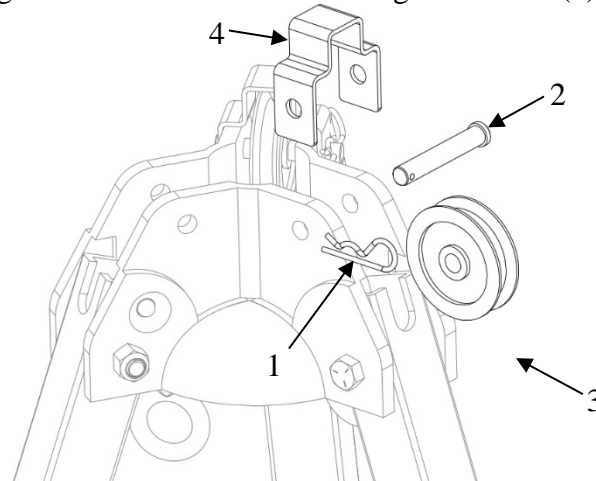

Figure 8
Figure 8 – Reeving the Cable Over the Pulley	8
6. To reeve the cable through the pulley (Figure 8), first remove the hairpin cotter (1). Remove the clevis pin (2), pulley (3) and pulley guard (4). Thread the cable and hook/carabineer through the center hole in the head assembly. The wide axis of the hook/carabineer will need to be aligned with the slot in the center hole. Place the cable over the pulley and reassemble the pulley assembly making sure that all of the components are in place and that the hairpin cotter is fully seated. Ensure that the cable is not pinched or otherwise obstructed and that the pulley spins freely.